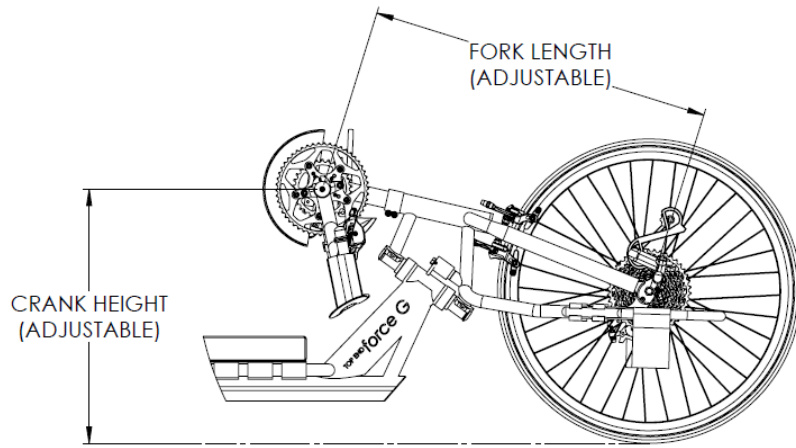

Figure 3
3. Crank Height: (+/- 1/4") Measured from the ground to the center of the bottom bracket. See Figure 3.
4. Fork Length: (+/- 1/4") Measured from the center of the front wheel axle to the center of the bottom bracket. See Figure 3. **NOTE: This product features adjustability for this measurement.**